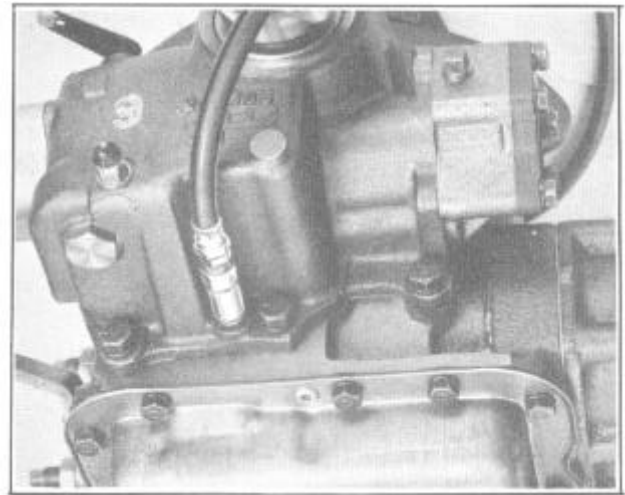

FIGURE 152
1. With the engine stopped, remove the 1/8" pipe plug from the transmission extension case, Figure 152, and install the pressure gauge fitting.